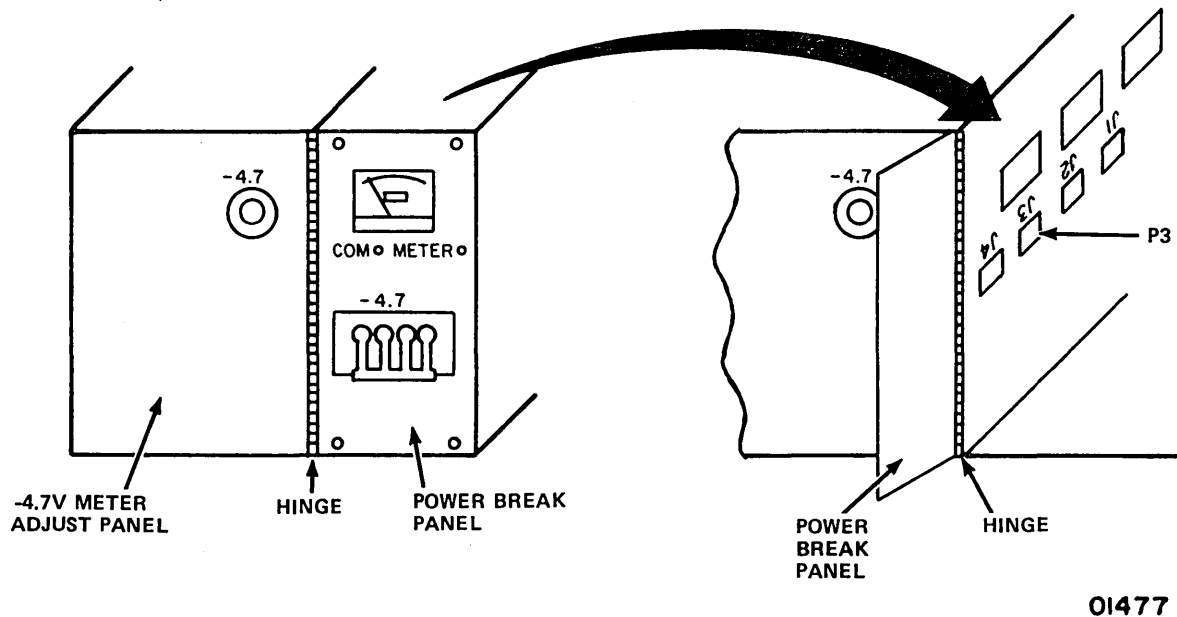

Figure 6-8. Cable Fault P3 Location (Right-Hand View)
2. Remove four screws from top and bottom of -4.7 V power breaker panel (figure 6-8) and swing panel open.